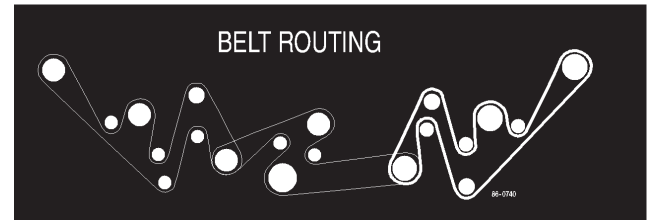

Figure 75
7. Route new belt around appropriate pulleys as shown in Figure 75.